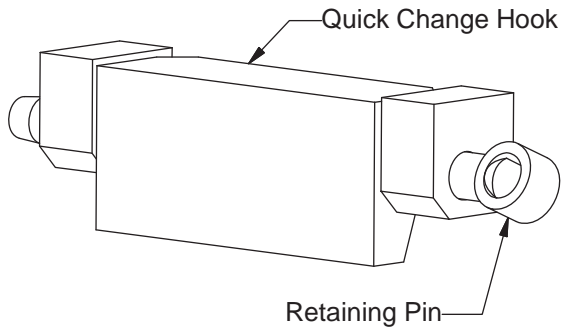

Figure 4-2, Quick Change Hook
3. Remove the lower bolt-on retainers and, if applicable, make a note of any factory installed shims. Shims are used to space the retainer closer to the truck carriage. If the attachment is equipped with Quick Change Hooks, simply remove the Retaining Pin and the Quick Change Hook (Figure 4-2).